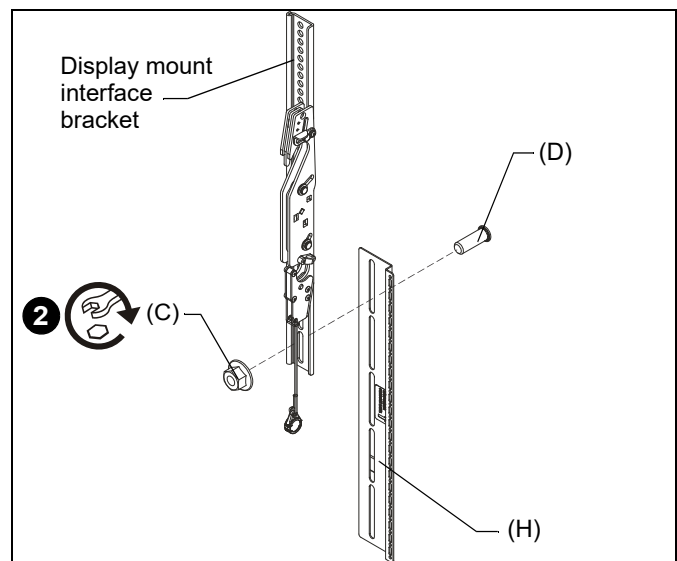

Figure 3
**NOTE:** Instead of attaching the mounting bracket (H) to VESA holes in the back of the display, it may also be attached directly to the display mount interface bracket.
2. Connect the mounting bracket (H) to the desired point on the display mount interface bracket with one PEM stud (D) and flange nut (C). (See Figure 3)